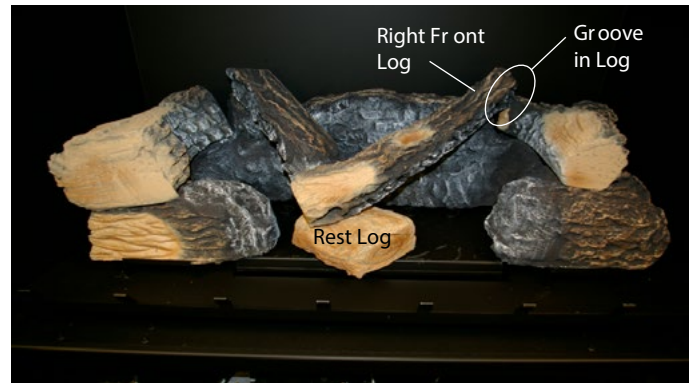

Figure 10e. Placing Right Center Log.
Step 7. Place the Right Centre log as shown in **figure 10e**.